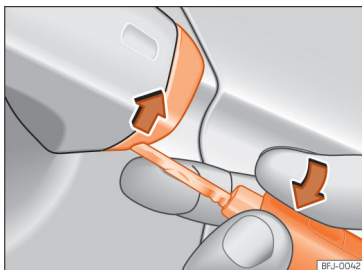

Fig. 87 Driver door handle: lever the cover off
- Insert the key shaft into the lower opening in the cover on the driver door handle »» Fig. 87 then remove the cover upwards.